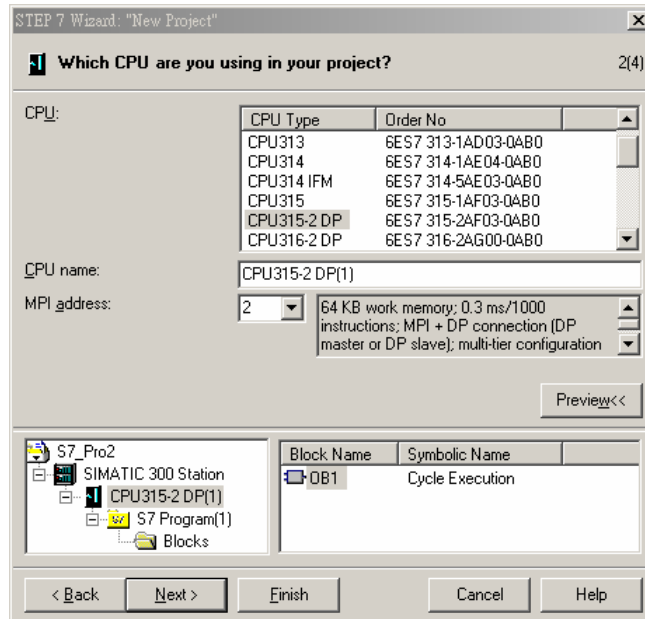

Figure 10-5
4. Select a CPU type for the S7-300 model we are using and click “Next”, as Figure 10-5.